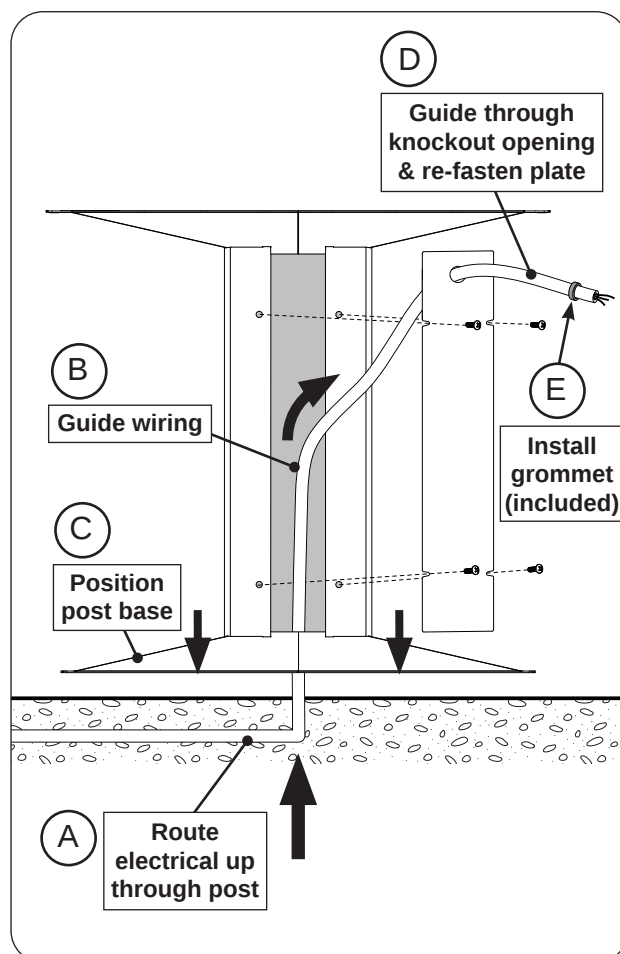

Fig. 25-2 Remove access plate and knock-out
- Tilt the post base slightly and carefully feed the electrical wires (coming from underground) up from under the post base (See Fig. 25-2, A)
- Guide wiring up the post assembly (See Fig. 25-2, B)
- Carefully rest the post base at its designated location (See Fig. 25-2, C)
- Feed the electrical through the knockout hole of the access plate and re-fasten the access plate (See Fig. 25-2, D)
- Install the grommet (included) onto the electrical and slide the grommet up against the knockout hole and snap into place (See Fig. 25-2, E)